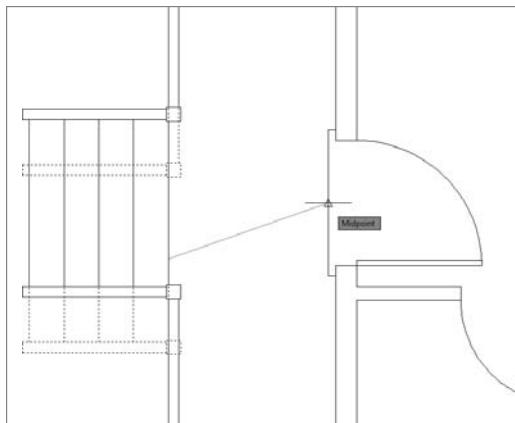

FIGURE 5.38 Select the midpoint of the threshold as the Y and Z components of the second point.
7. Click the Snap to Midpoint button in the Object Snap toolbar, and then click the midpoint of the threshold (see Figure 5.38).